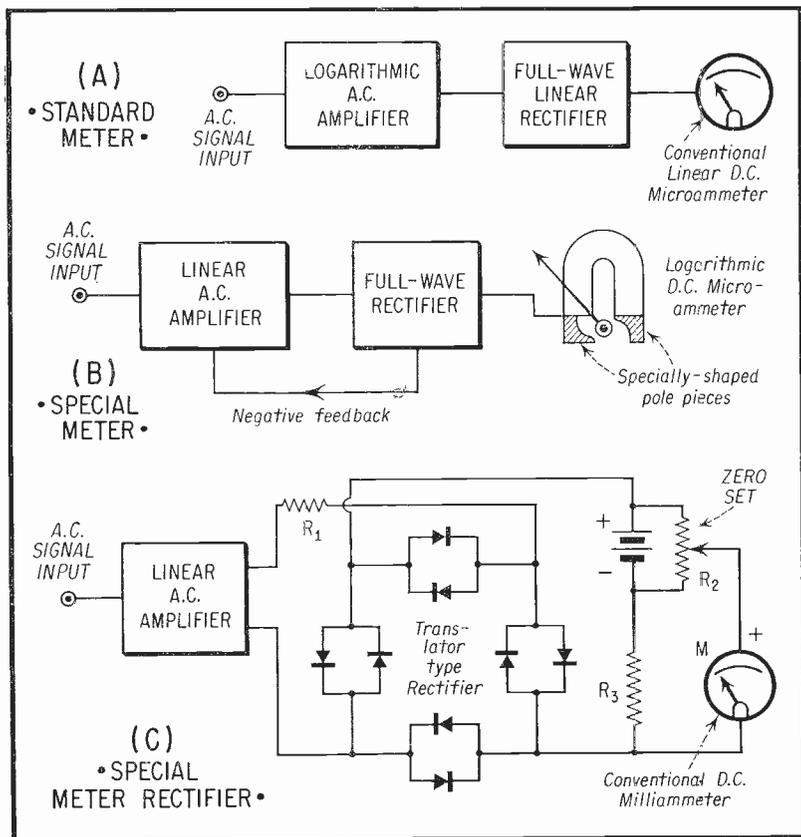

Fig. 4. Logarithmic V. T. Voltmeters.
A common layout for logarithmic v. t. voltmeters is shown in Figure 4(A). Here, a conventional linear rectifier-type milliammeter or microammeter circuit is driven by an a. c. signal amplifier having logarithmic response. Logarithmic action may be obtained through the use of variable- μ pentodes operated with correct parameters. An instrument of this type would, of course, require a special voltage scale for the indicating meter, but a db scale would be linear.
A familiar arrangement, such as is used in the Ballantine laboratory-type v. t. voltmeters, is shown in block diagram in Figure 4(B). In this instance, a linear signal amplifier and rectifier are used, but the d. c. microammeter has specially-shaped pole pieces which serve to give the meter itself logarithmic response. Logarithmic movement of the moveable coil of the meter is secured by so shaping the pole pieces of the magnet that the air gap is varied continuously in a logarithmic manner as the coil rotates.
An interesting possibility for a logarithmic v. t. voltmeter for use at frequencies not exceeding 20 kc. is illustrated in Figure 4 (C). This application involves the use of a linear signal amplifier to drive a special meter rectifier circuit which has been found to have logarithmic response. The special oxide-type rectifier is an 8-section Translator which has been described by Conant (See "Rectifying Without Rectifiers" by H. B. Conant; RADIO-ELECTRONICS, July, 1952, p. 61). This arrangement will permit readings of 1-10-100, 10-100-1000, etc., on the milliammeter scale, with the center value at half-scale of the meter. Ranges may be changed by switching in appropriate values for the multiplier resistor, R_1 , or this resistor may be maintained at a fixed value and the range switching accomplished by means of a conventional input voltage divider in the amplifier.